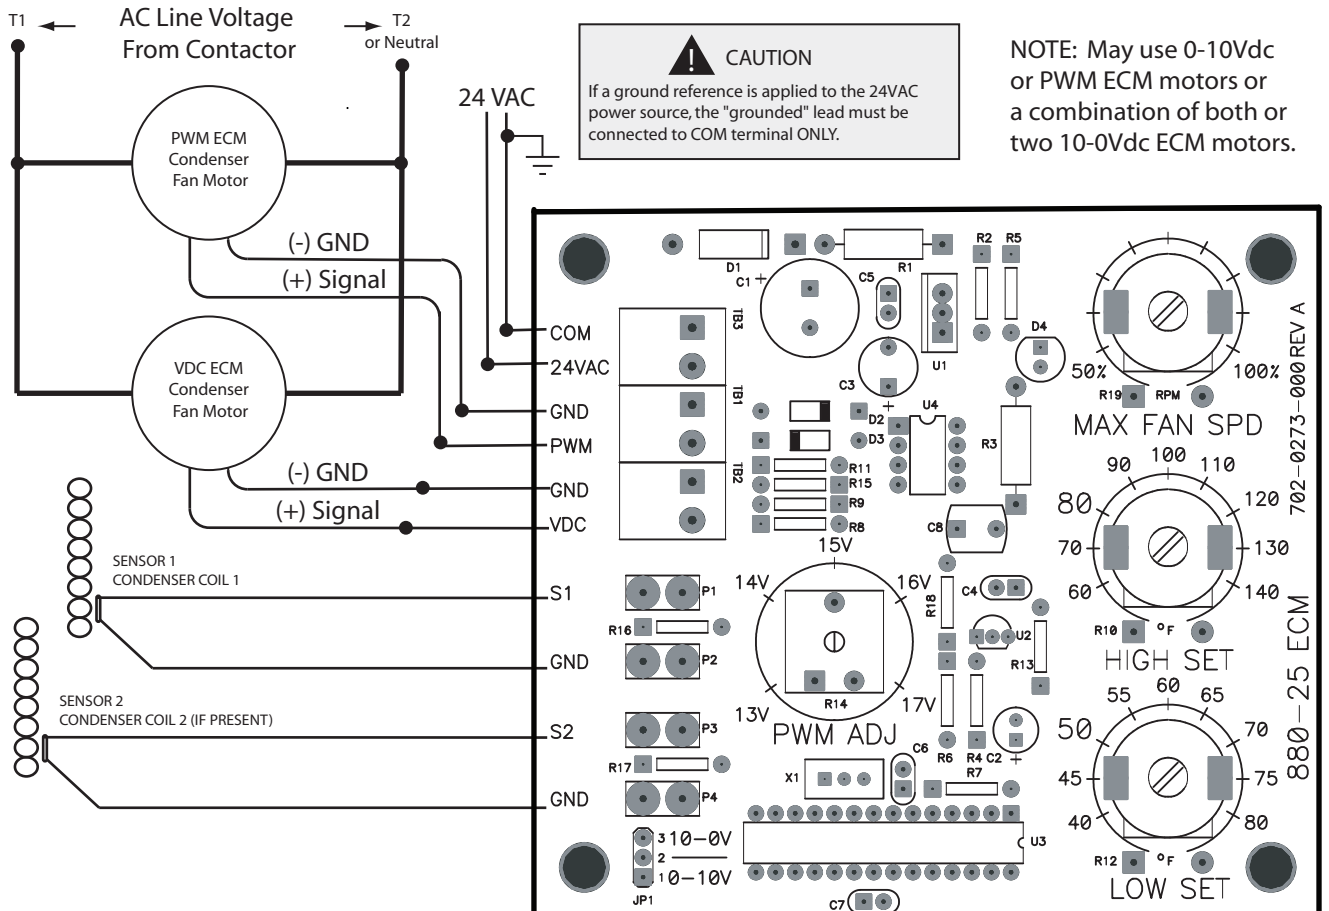

Figure 3 - Wiring Diagram for the 880-25 Control
- Make the wiring connections as shown in Figure 3, 880-25 Wiring Diagram.